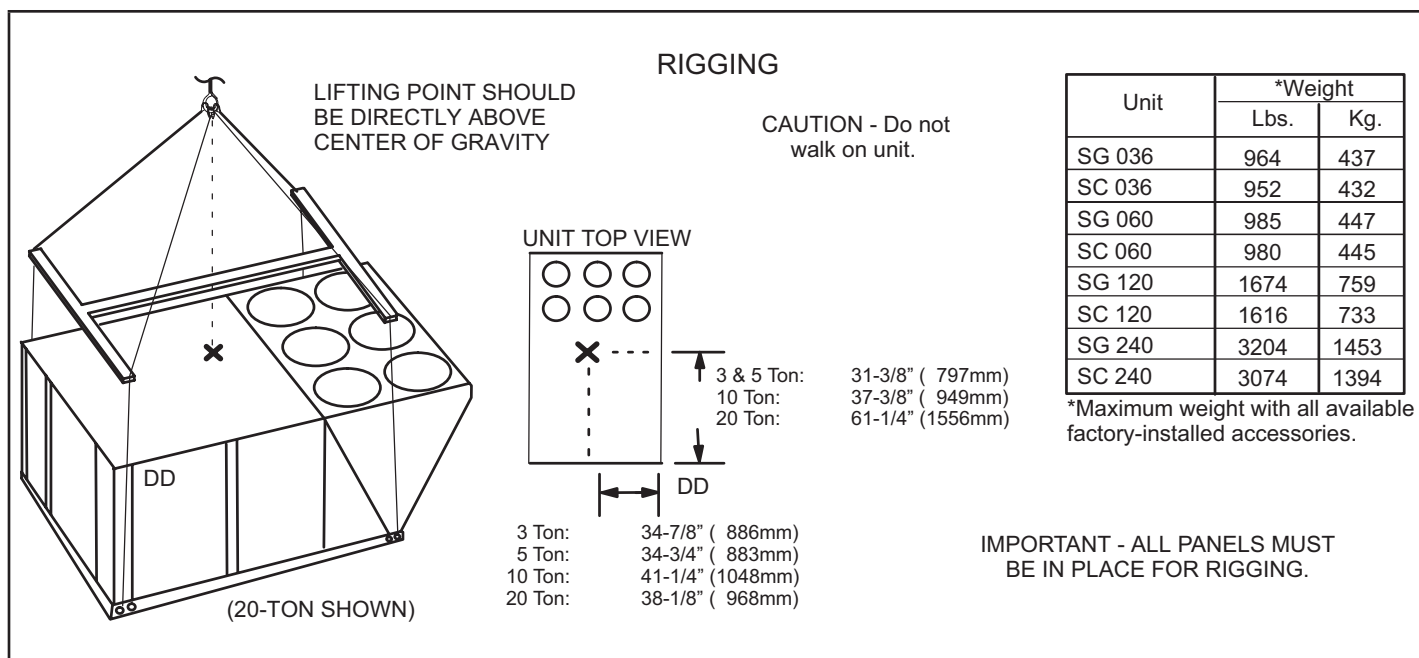

FIGURE 3
Rig unit for lifting by attaching four cables to holes in unit base rail. See FIGURE 3.
- 5 - Lifting point should be directly above center of gravity. See FIGURE 3 for center of gravity dimensions. Corner "DD" is on the left corner when facing compressors and heat section.